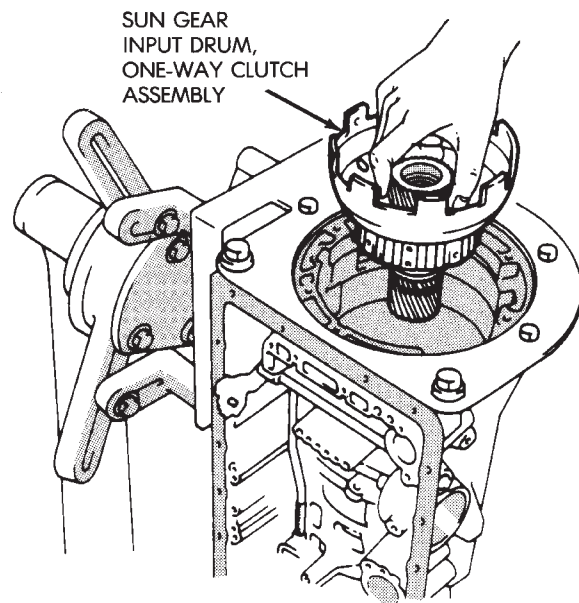

Fig. 37 Removing Sun Gear, Input Drum And One-Way Clutch
(46) Remove sun gear, input drum and one-way clutch as assembly (Fig. 37).